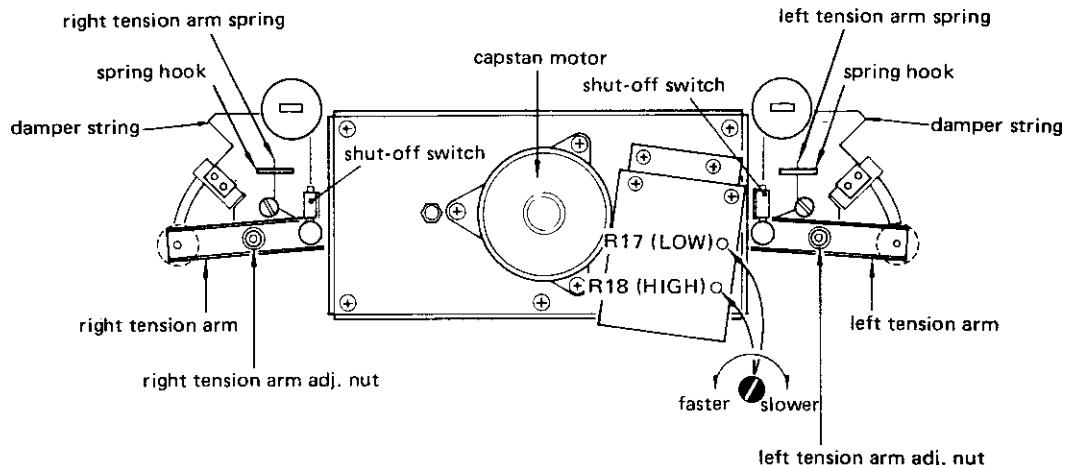

Fig. 2-9 Tension arm height, tension arm force, damper function, and tape speed
3. Stop left (right) guide roller's rotation by hand. Adjust by turning the left (right) tension arm adjusting nut (refer Fig. 2-9) so that the tape moves in the center of the guide roller.
3. Play the tape. Adjust R18 (see Fig. 2-9) for a reading of 3,000 Hz±5 Hz.